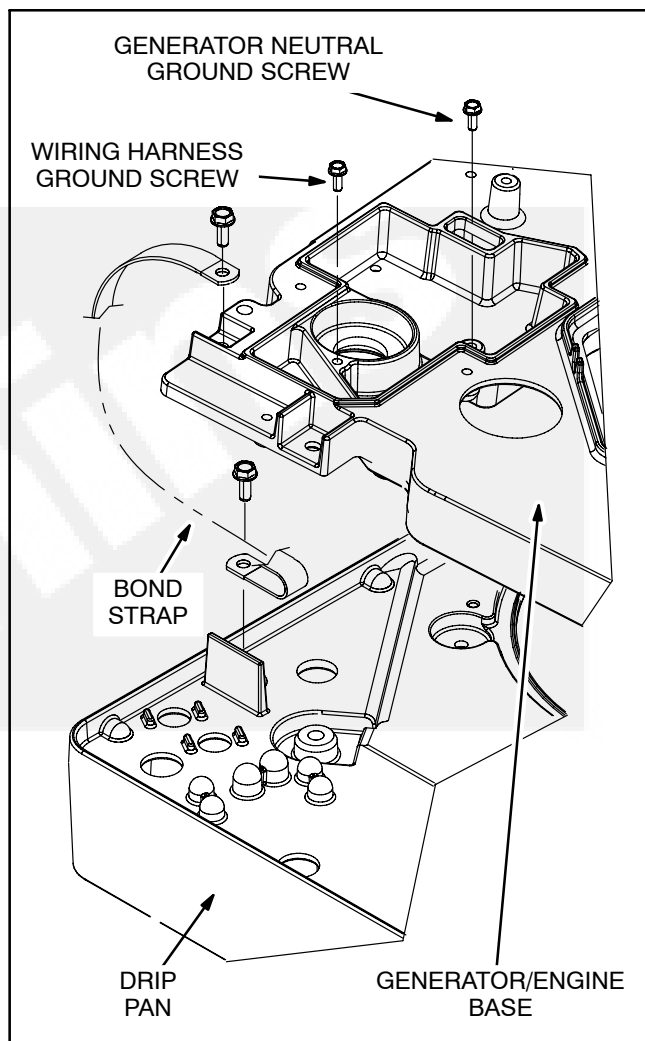
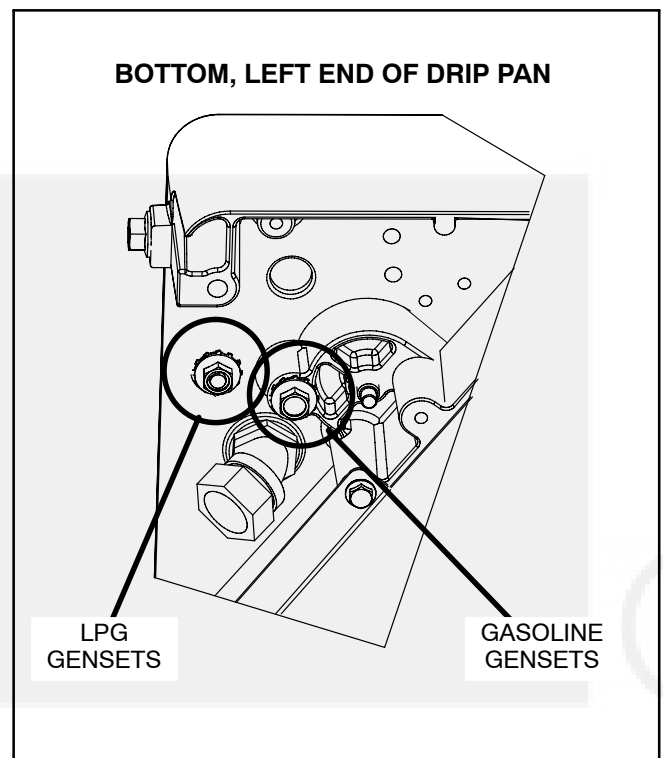

FIGURE 5-8. BOND STRAP
FIGURE 5-13. NEGATIVE (-) BATTERY CABLE TERMINAL
Secure the four (4) GND wiring harness eyelets (Page A-2 or A-4) to the base with the harness ground screw (Figure 5-8).
For 2-Wire, 120 VAC gensets only (Figure 6-3, Page 6-6), secure generator leads T2 and T4, the green AC output lead and the two (2) white (L0 and L0) AC output leads to the base with the generator neutral ground screw (Figure 5-8).
Connect the bond strap (Figure 5-8) between the generator/engine base and drip pan to carry control and cranking currents to battery negative (-). The negative battery cable terminal is on the bottom side of the drip pan (Figure 5-13).